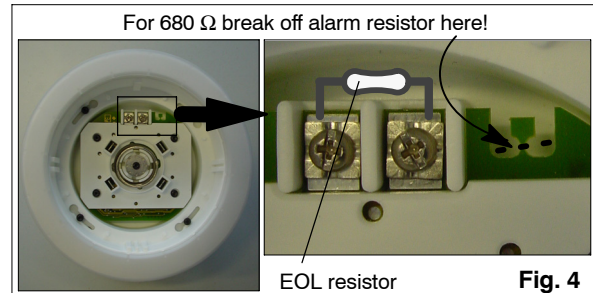

Fig. 4
- EOL resistor:** For the last base on the stub line (FCA-500-E), place the EOL resistor between the two screw clamps (see Fig. 4).
- Alarm resistor:** If necessary, change the alarm contact resistance from 0 Ω to 680 Ω by breaking off the printed circuit board tongue (see Fig. 4).